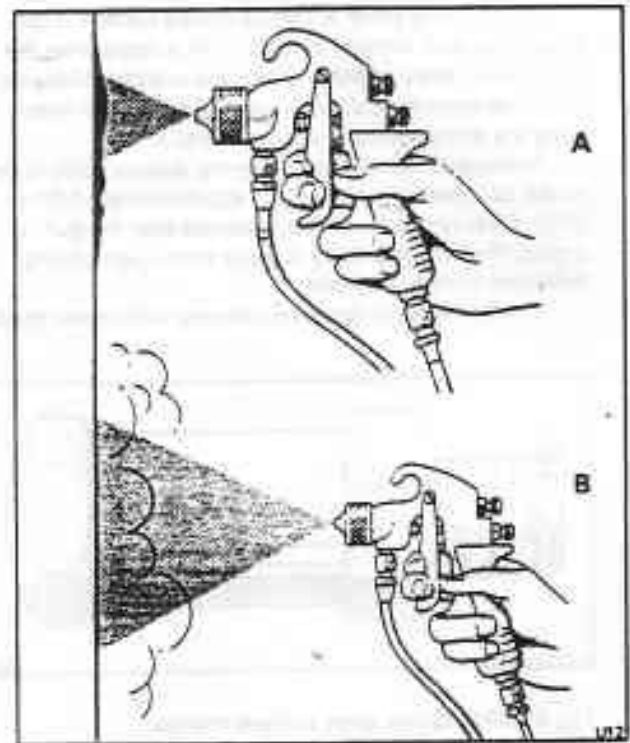

Fig. S17-31 Effects of incorrect spraying distances
3. Holding the spray gun at the incorrect distance from the surface (see fig. S17-31). When the gun is held too close to the surface the paint is concentrated into a smaller area. Unless the speed of the stroke is increased considerably the surface will be overloaded, probably causing runs and sags.